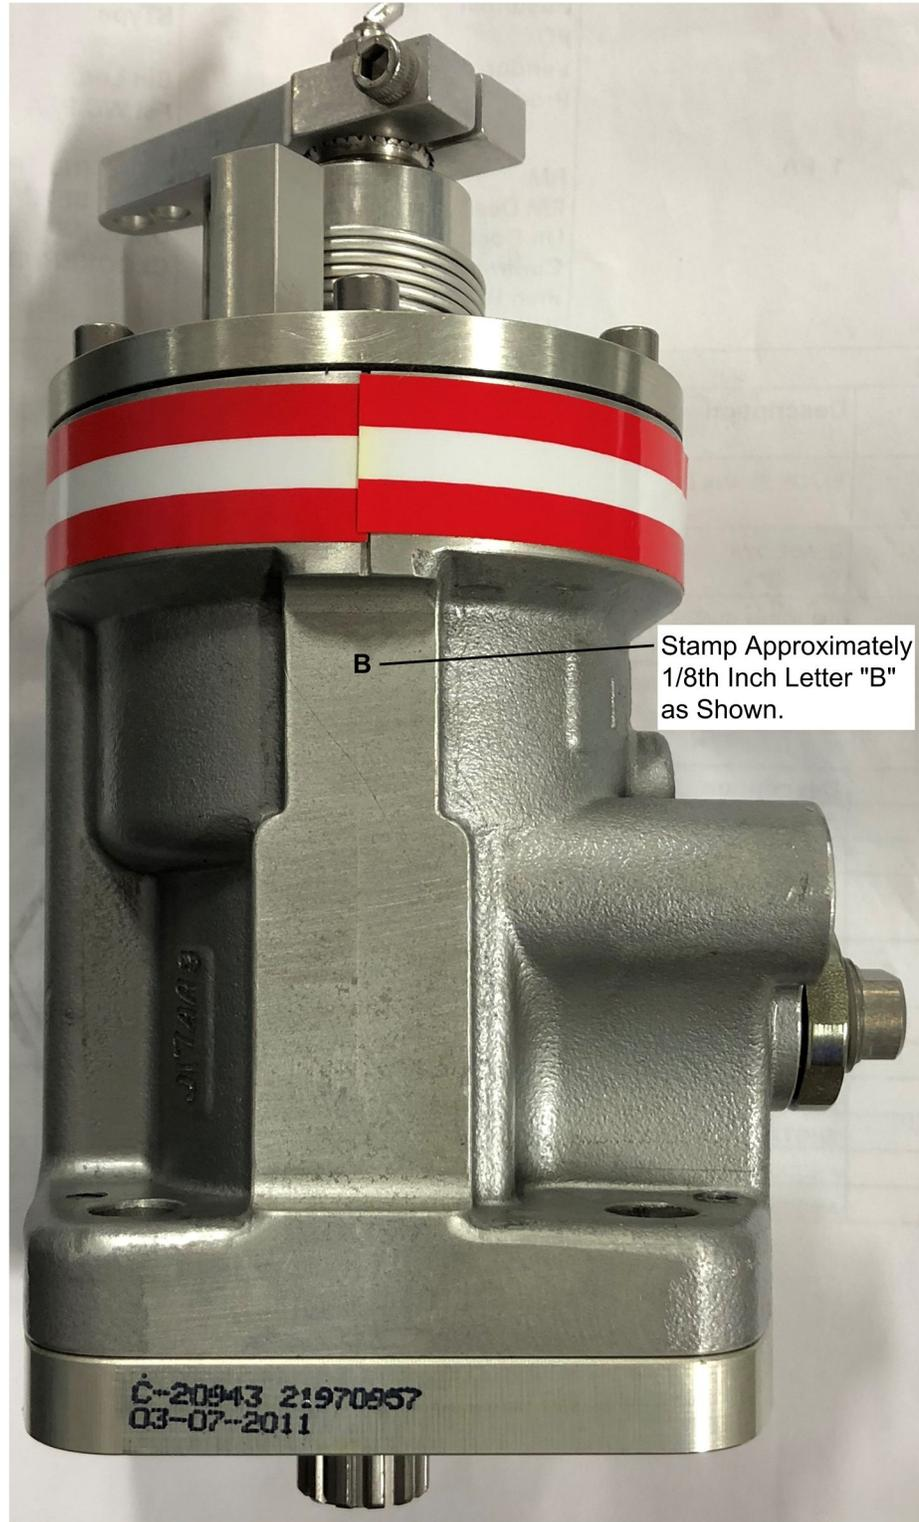

Figure 2. Governor Stamping (Sheet 1)
- If compliance to previous revision of ASB273 has been accomplished, no additional action is required by ASB273C. Previous compliance may be determined by examination of the aircraft maintenance log book entry, governor log book entry and/or the presence of the letter "B" stamping on the governor (ref Fig 2).
- (1) Remove and retain the A-20107 idler gear assembly.
- (2) Overhaul the governor and complete associated actions as indicated in McCauley SB215C
- E. Stamp the letter "B" (Approximately 1/8th of an inch character) on the governor body as shown in Figure 2.
**NOTE:** Governor stamping can be on the side shown in Figure 2, or on the data plate side.